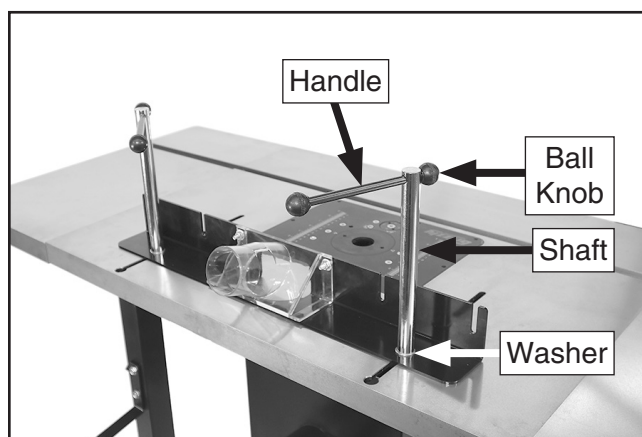

Figure 25. Fence locks installed.
18. Assemble (2) fence locks (see **Figure 25**) by removing one ball knob on each handle, sliding it through hole at top of shaft, then re-installing knob.
19. Install (1) $\frac{5}{16}$ " flat washer and (1) fence lock (see **Figure 25**) on each T-bolt installed in **Step 17**.